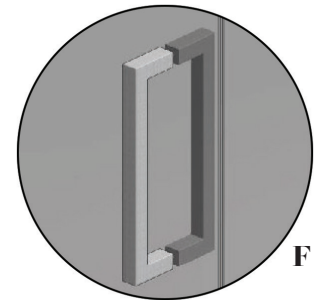

FIG 28.
- Remove the handle from the wrapper, dismantle and re-assemble onto either side of the door. Take care to ensure the plastic bushes are located inside the locator holes and the locking hex screws are tightened so the handle is tight and secure (FIG 28).